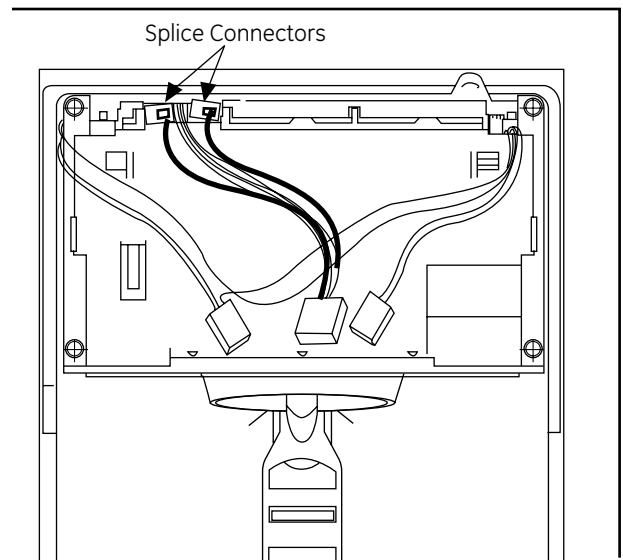

Figure 5
7. **Replace dispenser cradle assembly and control board.** See Figure 5 for wire routing.